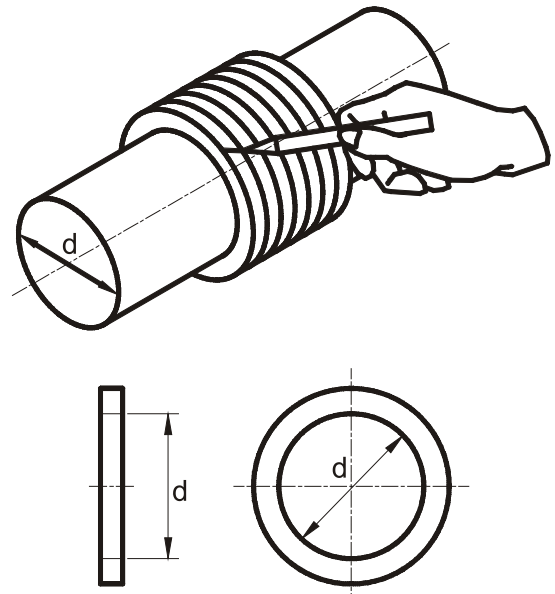

Fig. 11
1. Loose and take away the stuffing box gland bolts (220) and slip it towards the support.
2. Take away the stuffing box (201) bolts (221) adjusted to the back cover (200) and slip it towards the bearing frame. take away the packing ring (215) from the stuffing box.
3. Slip the lantern rings (204) along the shaft towards the support and take away the packing rings (215) placed inside the back cover (200).
5. Cut the packing rings according to the shaft diameters (rolling the packing around a cylinder with the same diameter than the pump shaft). Avoid overtensioning the packings (around the pump shaft) because leakage among free spaces could occur, due to cut failures (Fig. 11).